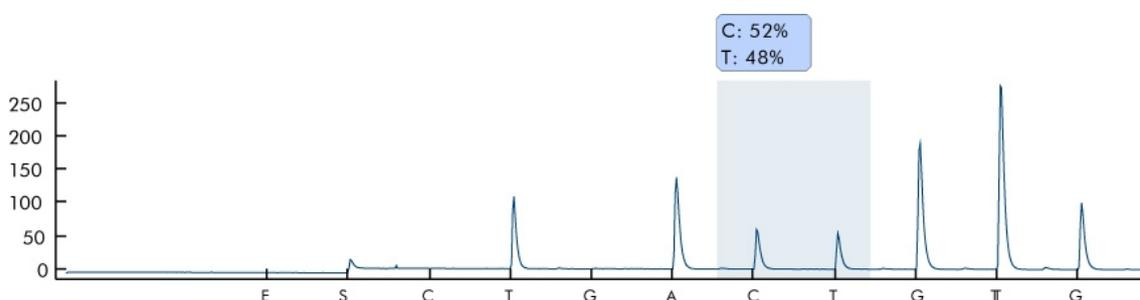

Figure 3. Pyrogram of Run 1.
30. Open the run in the PyroMark Q24 MDx Software and analyze all wells. The peak pattern for Run 1 should look like the one in Figure 3.